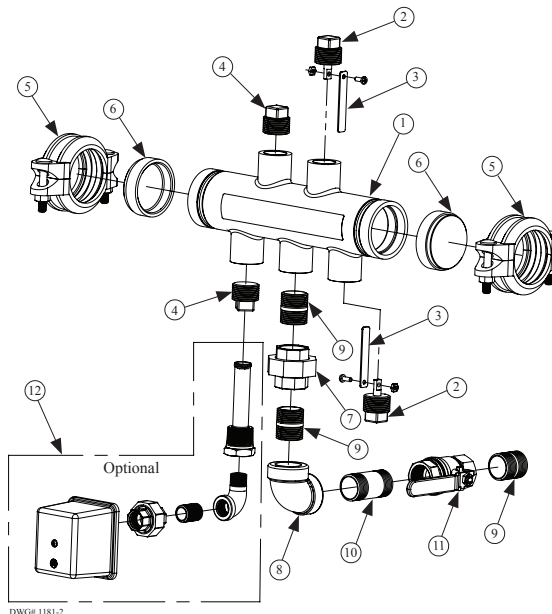

Fig. 2 Corrosion Coupon Holder Assembly
2. Assemble all corrosion coupons on to the coupon holders as shown in Figure 2.